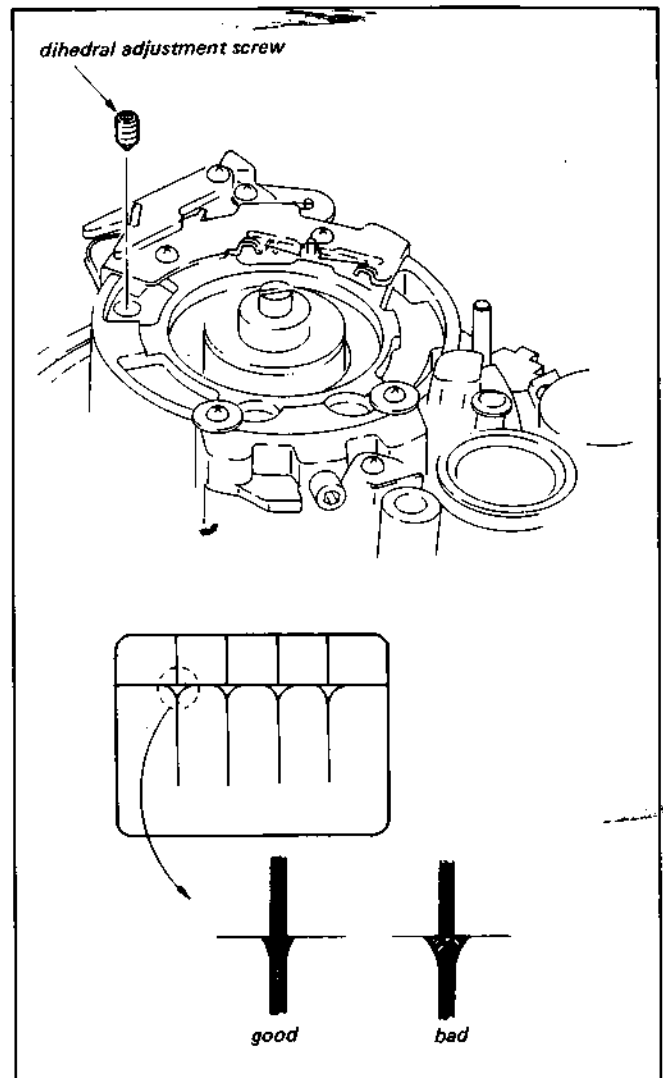

Fig. 3-5. Video head dihedral adjustment
- 1) As shown in Fig. 3-5, screw two dihedral angle adjustment screws (Jig Ref. No. J-10) into the adjustment screw holes on the side on which the red lead wires from the video head are connected, until the top of the screw is level with the video head disk. (If they are not screwed in far enough, the video head disk will not turn past the point where the top of the adjustment screw strikes the upper drum. Conversely, if it is screwed in too far, the head base will be moved, throwing the video head dihedral angle way off.)